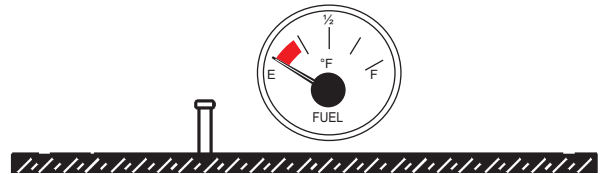

Figure 39. Full Fuel Tank
3. **NEVER overfill fuel tank** — It is important to read the fuel gauge when filling trailer fuel tank. **DO NOT** wait for fuel to rise in filler neck (Figure 39).